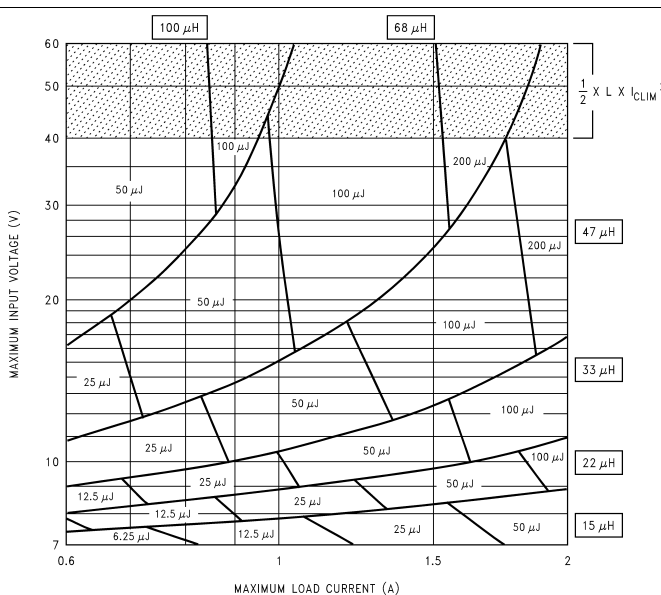

Figure 34. LM2593HV 5-V
1. A first pass inductor selection is based upon inductance and rated maximum load current. Choose an inductor with the inductance value indicated by the nomograph (see Figure 34) and a current rating equal to the maximum load current. Therefore, quick-select a 68- μH , 1-A inductor (designed for 150-kHz operation) for this application.
- Confirm that it is rated to handle 50 μJ (see Figure 34) by either estimating the peak current or by a detailed calculation as shown in *AN-1197 Selecting Inductors for Buck Converters* (SNVA038), and also that the losses are acceptable.
- A first pass inductor selection is based upon inductance and the switch current limit. Choose an inductor with the inductance value indicated by the nomograph (see Figure 34) and a current rating equal to I_{CLIM} . Therefore, quick-select a 68- μH , 4-A inductor (designed for 150-kHz operation) for this application.